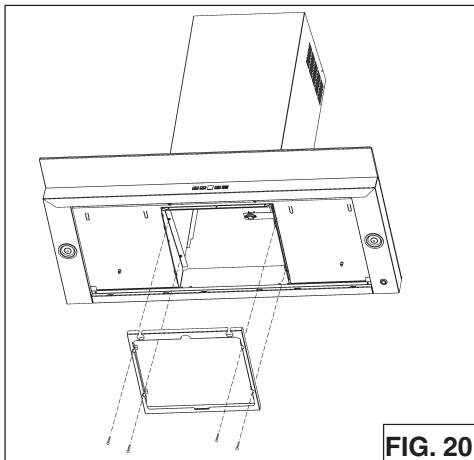

FIG. 20
5. Attach non-duct filter frame using (4) 3.9 x 6 mm screws (Fig.20).